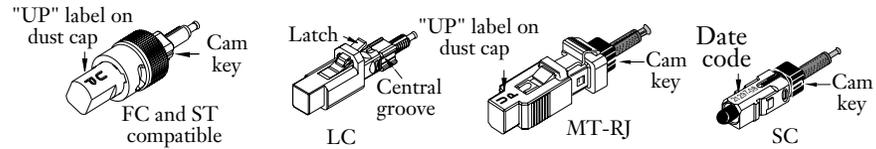

Figure 2
2. Verify that the connector cam on each connector is in the **open** position (Figure 2). Connector cams may move slightly in shipment (Figure 2):